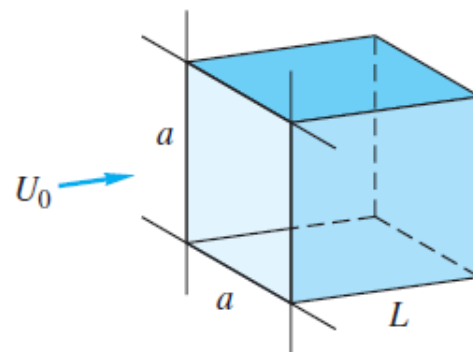

Fig. 7.7
7.7 Flow straighteners are arrays of narrow ducts placed in wind tunnels to remove swirl and other in-plane secondary velocities. They can be idealized as square boxes constructed by vertical and horizontal plates, as in Fig. 7.7. The cross section is α by α , and the box length is L . Assuming laminar flat-plate flow and an array of $N \times N$ boxes, derive a formula for a) the total drag on the bundle of boxes and b) the effective pressure drop across the bundle.
7.8 Let the flow straighteners in Fig. 7.7 form an array of 20×20 boxes of size $\alpha = 4$ cm and $L = 25$ cm. If the approach velocity is $U_0 = 12$ m/s and the fluid is sea-level standard air, estimate a) the total array drag and b) the pressure drop